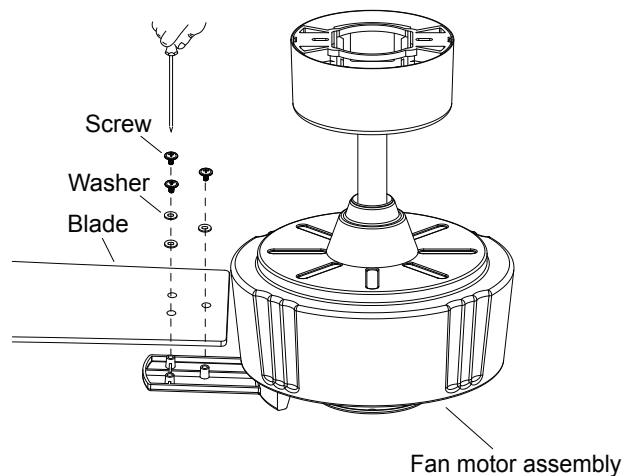

Fig. 17
Step 1. Align the holes from the blade and washer to the holes from the blade arms, and secure the blade in place with screws provided. (Fig. 17)